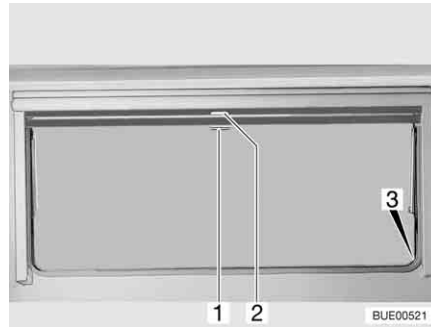

Fig. 78 Hinged window
- Pull blind at the handle (Fig. 78,2) downwards. If the blind is to be completely closed, it is suspended into the locking devices (Fig. 78,3) situated on both sides of the window frame.
- If the blind is completely closed: Press handle (Fig. 78,2) downwards and, at the same time, tilt it slightly inward. The blind can be taken out of the locking devices situated on both sides of the window frame.
- If the blind is in an intermediate position: Pull the handle (Fig. 78,2) slightly downwards until the locking device releases.
- Pull insect screen at the handle (Fig. 78,1) down and hang it into the locking devices (Fig. 78,3) situated on both sides of the window frame.
- Press handle (Fig. 78,1) downwards and, at the same time, tilt it slightly inward. The insect screen can be taken out of the locking devices situated on both sides of the window frame.